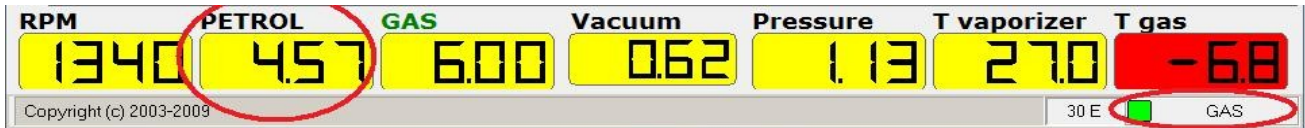
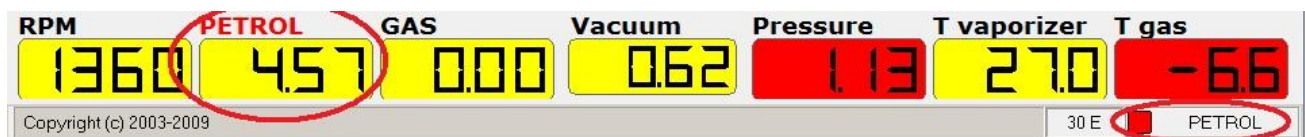

Figure 3.35: Petrol time on gas
Figure 3.36: Petrol time on petrol.
- **Tgas correction** – enables to add correction from gas temperature. It is possible to add standard, low and high corrections, as well as turn corrections off. It is recommended to use standard corrections. Verification of corrections may be done when engine is cool (T vaporizer < 20°C) by comparing petrol times on petrol (see figure 3.36) and petrol time on gas (Figure 3.35). Such a correction has to be chosen, so that the difference between those times would be the smaller.